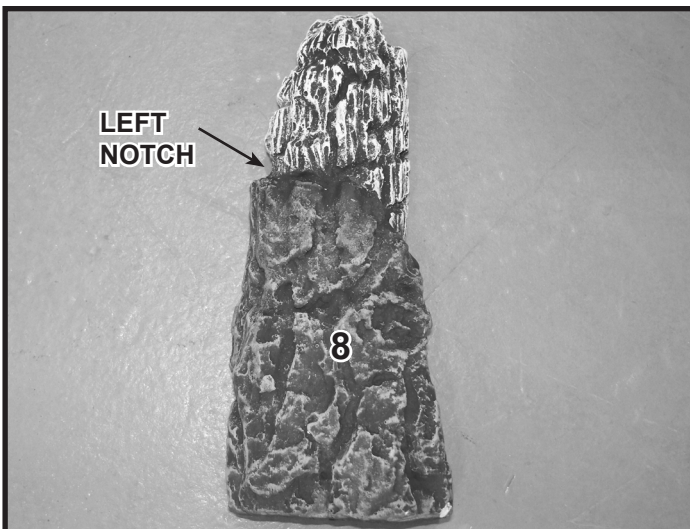
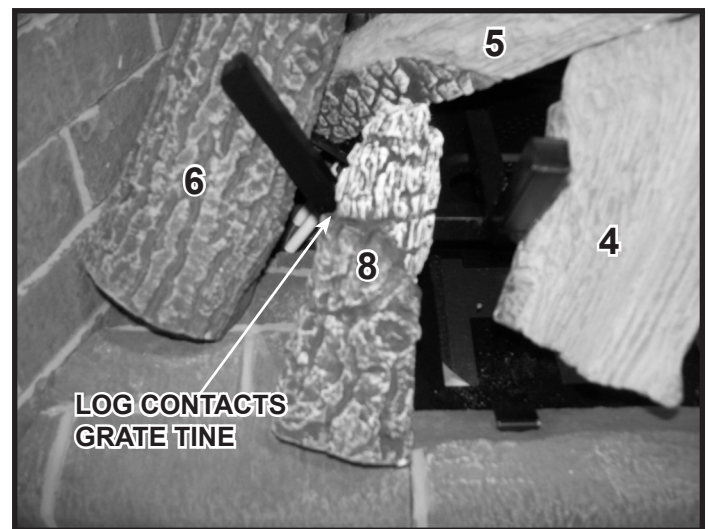

Figure 13
Figure 14
**Log #8 (SRV2281-748):** Place Log #8 into appliance as shown in Figure 14. Left notch, shown in Figure 13, will contact left grate tine and base of log will rest on bottom refractory.